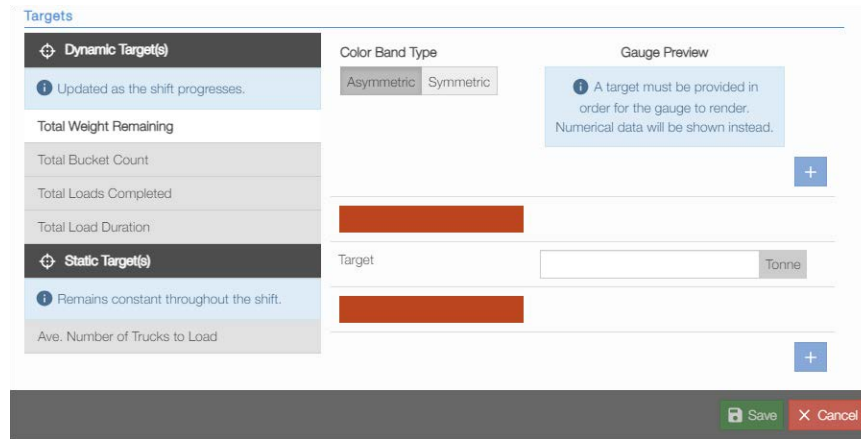

Figure 6-16: Weight Contract Summary Widget (Bottom)
8. Select the dynamic target (**Total Bucket Count**, **Total Loads Completed**, and **Total Load Duration**) (Figure 6-16).
13. Select **Save** (Figure 6-16 on page 6-11).